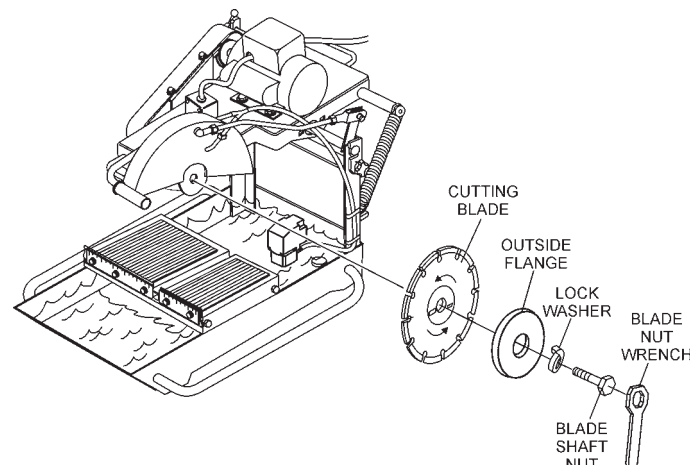

Figure 9. Blade Placement
1. Use the **blade nut wrench** (Figure 9) supplied with the saw to install the cutting blade.